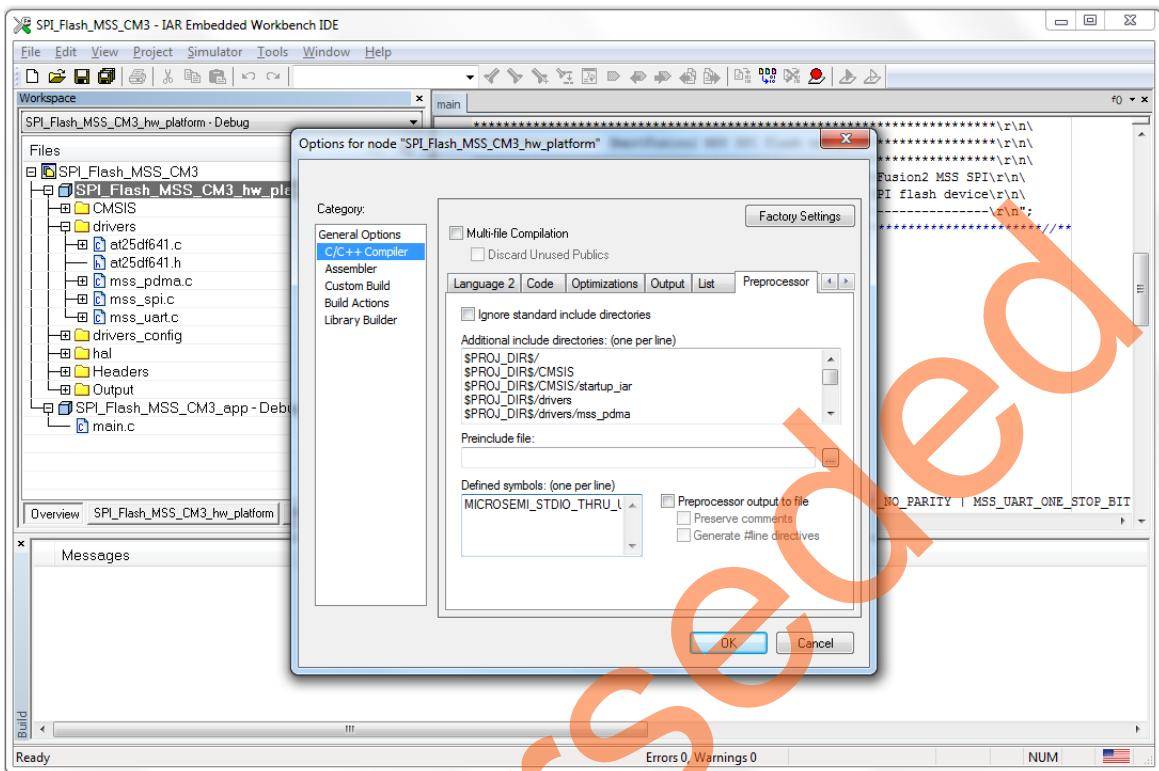

Figure 26 • IAR Workspace Window - Adding Symbol
11. Under **Defined symbols** enter MICROSEMI_STUDIO_THRU_UART and click **OK**, as shown in Figure 26.